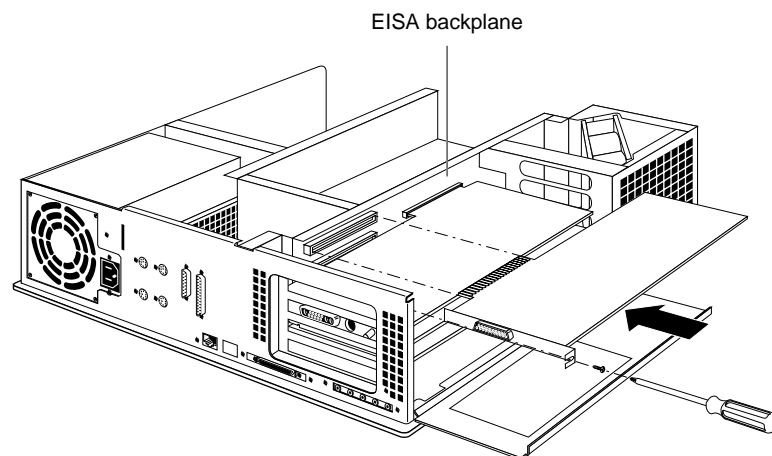

Figure 4-5 Installing the EISA Board
- Align the connector on the left side of the board with the connector opening on the left. Push the board into the slot until the connector on the back of the board is securely connected to the port on the backplane, as shown in Figure 4-5.